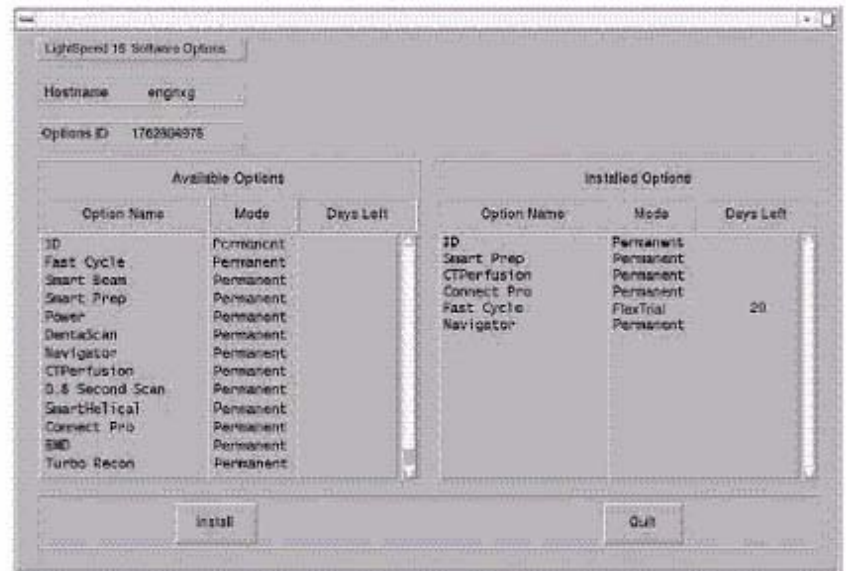

Figure 10-21 Software Options screen
- 8.) Click OK. Available options appear on the Software Options screen (Figure 10-21).